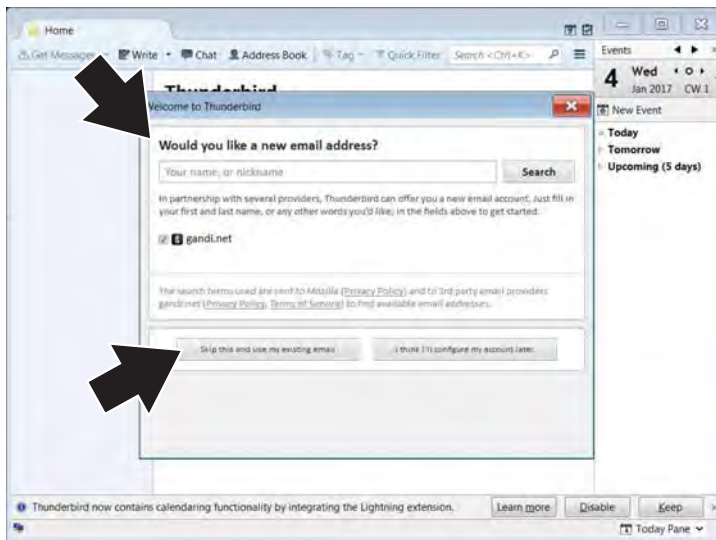

Figure 12-12
4. Choose to use your existing email address, or create a new email address with the email client (Figure 12-12).